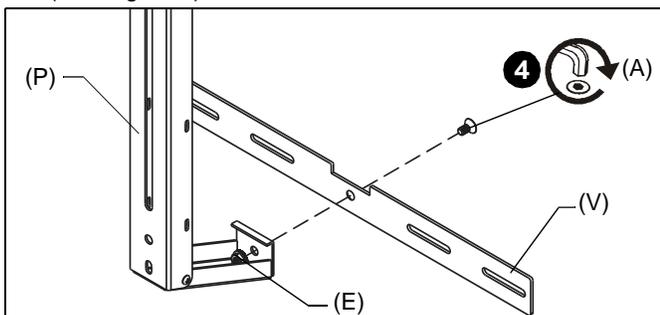

Figure 2
**NOTE:** The lower wall bracket (V) is **OPTIONAL** if the upright assemblies (P) are attached to a concrete wall
4. Attach one lower wall bracket (V) to each of the upright assemblies (P) using one 1/4-20 x 1/2" flat head cap screw (A) and one 1/4-20" hex nut (E) on each lower wall bracket. (See Figure 2)